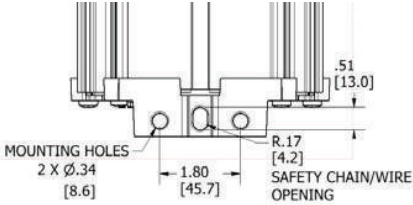

Figure 2
- B. The End Caps also have provisions for surface or suspension mounting. (See Figure 2)